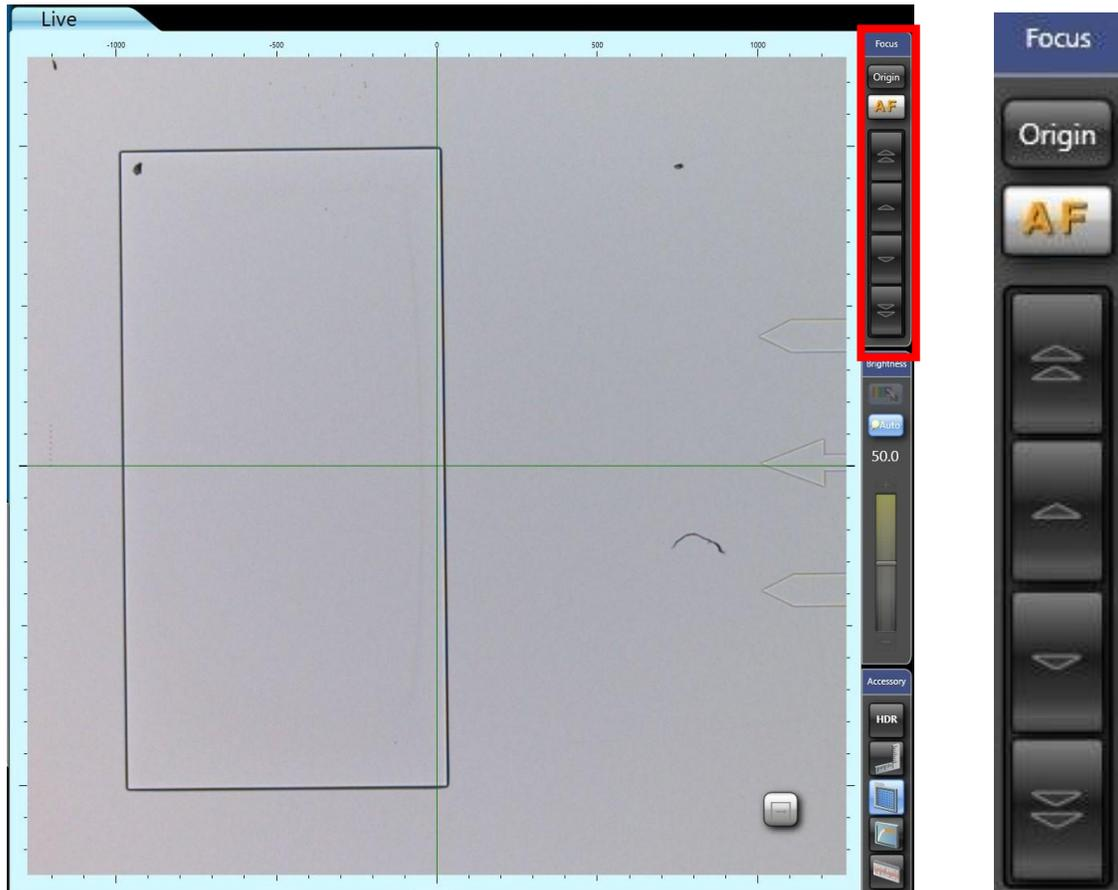

Figure 9. Fine-tuning Focus
8. Fine-tune the focus by using the arrows in the software, as shown in Figure 9.